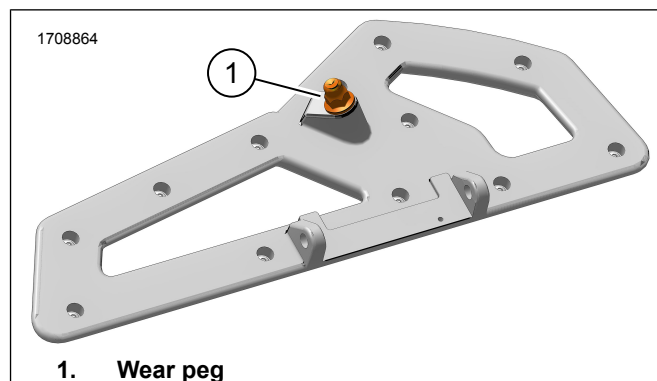

Figure 3. Floorboard Wear Peg (typical)
1. See Figure 3. Remove existing wear peg (1) from floorboard.
2. Apply 2 or 3 drops of threadlocker to threads of **new** wear peg (1) and install.